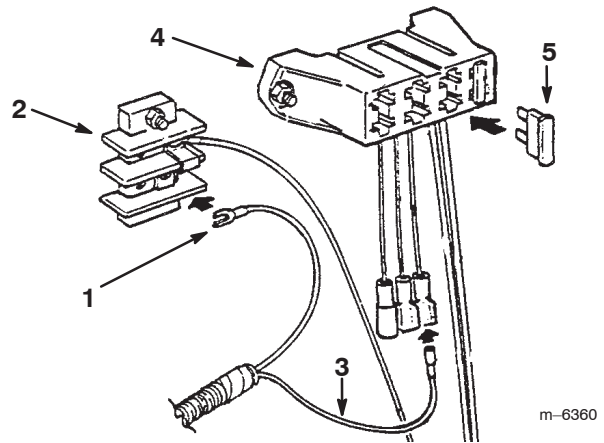

Figure 14
2. Connect the ring or fork terminal on the black wire to the ground terminal block (Fig. 14).
4. Insert the 30-amp fuse into the fuse block in the position where you connected the red wire (Fig. 14).
2. Connect the ring or fork terminal on the black wire to the ground bolt (Fig. 14).
4. Insert the 30-amp fuse into the fuse block at the position that corresponds with the red wire used to connect with the harness in the previous step (Fig. 14).